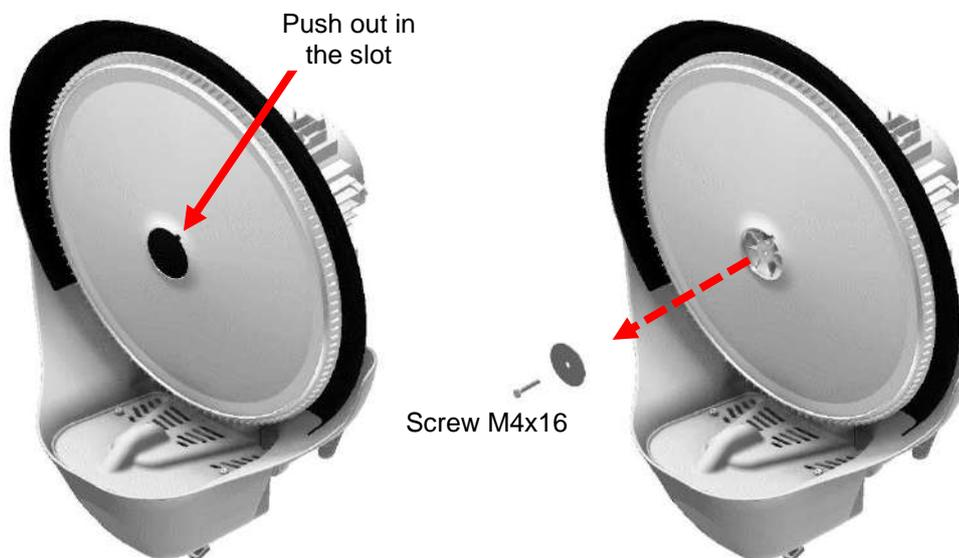

Fig. 4.4.1 Fig. 4.4.2
- Remove the central cap of the rotating disc inserting a small flat screwdriver into the slot and pushing it out (Fig. 4.4.1).